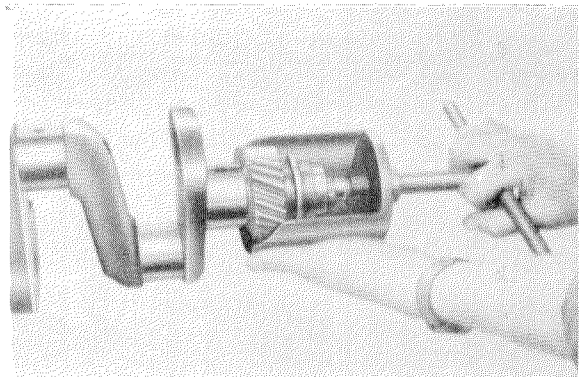

Figure 03-5/1
8. Pull off the crankshaft timing gear and the spacer with the Extractor Part No. 136 589 08 33 (see Figure 03-5/1). Take the two Woodruff keys out of the grooves in the shaft.